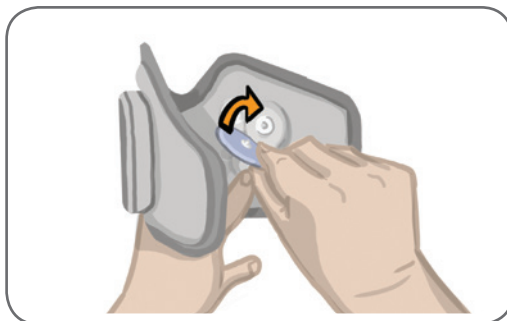

Figure 6-6: Attaching the Round Cloth Electrodes
5. Attach the Round Cloth Electrodes to the electrode bases. See Figure 6-6. For regular lower leg FS Cuff users make sure the Cuff Snap Covers are in place.